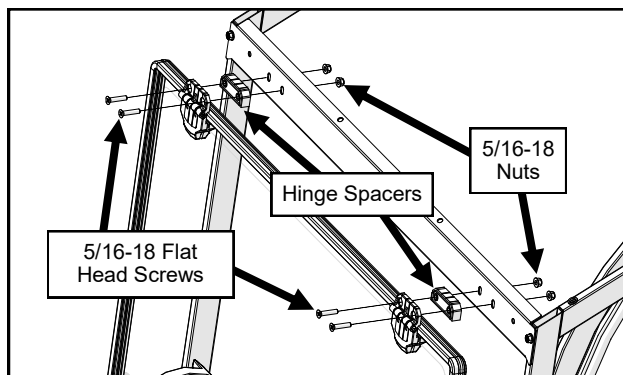

Fig. 13.2 (Attach Windshield)
- 13.2 With assistance, set the windshield up to the side frames and secure it to the windshield support using the hinge spacers and hardware. See Figure 13.2. Leave hardware loose.